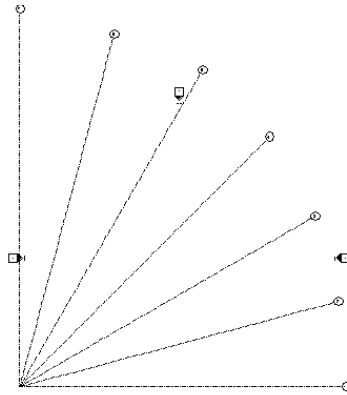

Figure 3-59 The radial grid lines with varying angles
10. Repeat steps 5 to 9 to create the remaining five grid lines that emerge from the start point of the first grid line. The temporary dimensions that you will consider to create the five radial grids are : **30°**, **45°**, **60°**, **75°**, and **90°**, refer to Figure 3-59.